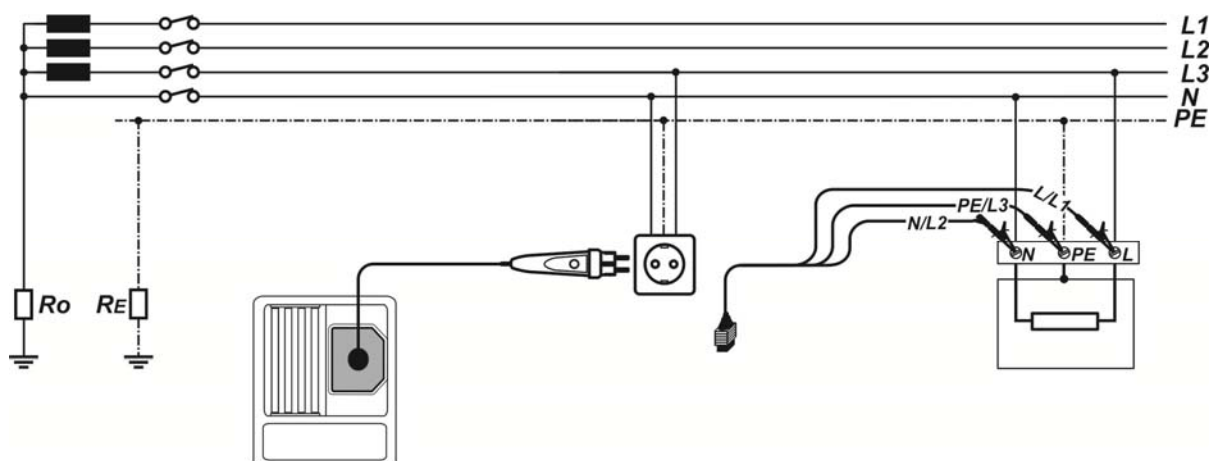

Figure 5.39: Connection of plug commander and 3-wire test lead
- ❑ **Connect** test leads to the item to be tested (see *Figure 5.39*).